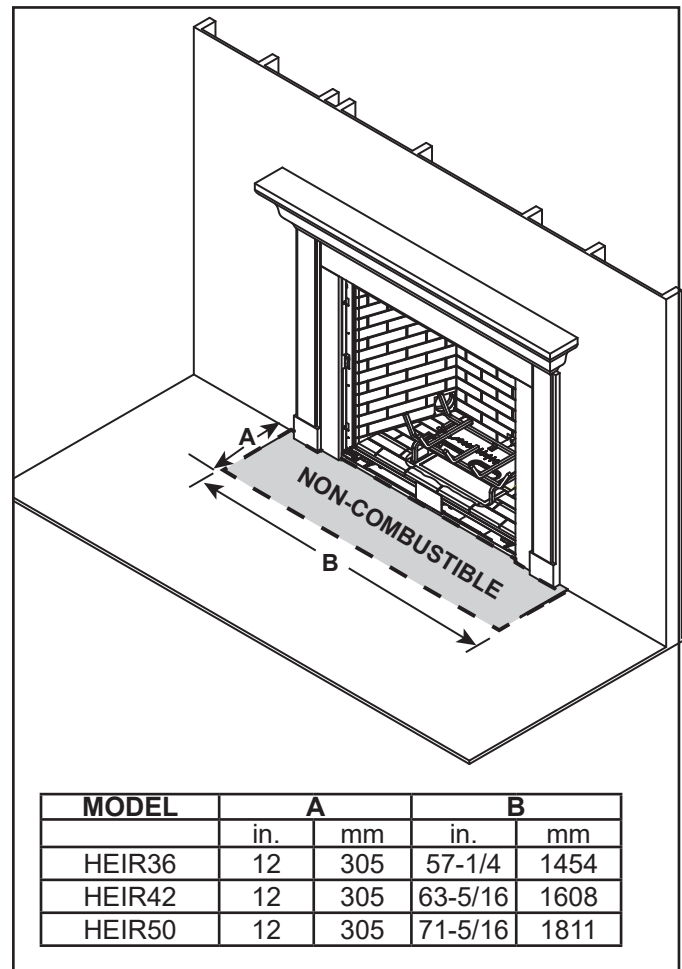
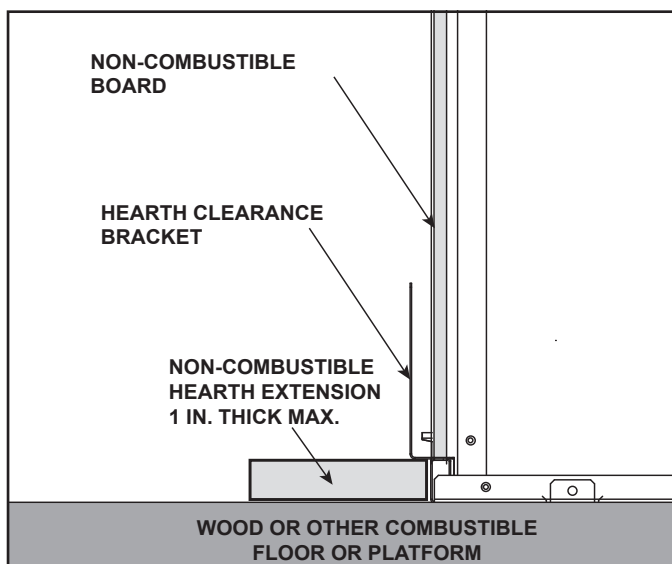
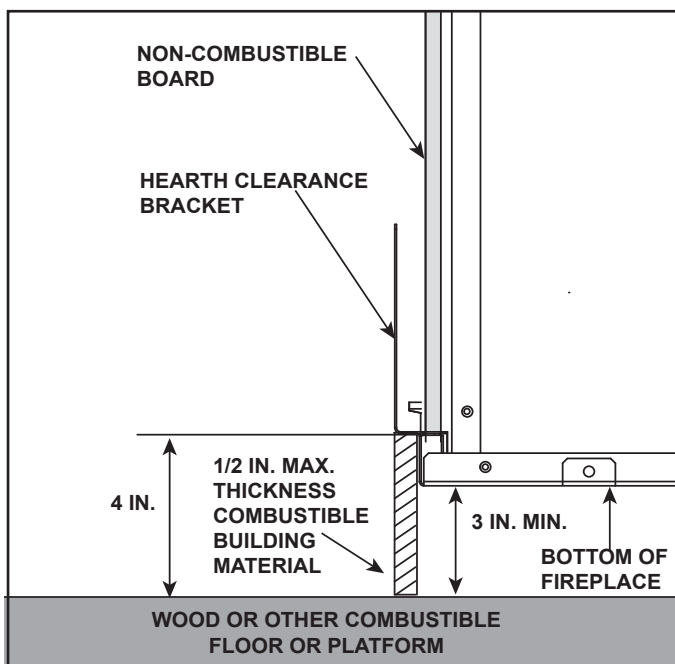

Figure 3.10 Non-Combustible Hearth Extension Dimensions
Figure 3.11 Appliance Installed on Combustible Surface
Figure 3.12 Appliance Raised a Minimum of 3 Inches Above
- Hearth extension must be non-combustible and serves to protect combustible floors in front of appliance. See Figure 3.10 and Figure 3.11.
- The base of the fireplace may sit on a combustible surface. See Figure 3.11. The area in front of the appliance must be protected by a non-combustible hearth extension, unless the appliance is raised a minimum of three inches above the combustible floor or hearth. See Figure 3.11 and Figure 3.12.
- If a hearth greater than one inch in thickness is desired, the appliance must be raised by the equivalent height to ensure that the hearth extension does not interfere with the installation of the glass assembly required for fireplace operation. See Figure 3.11.